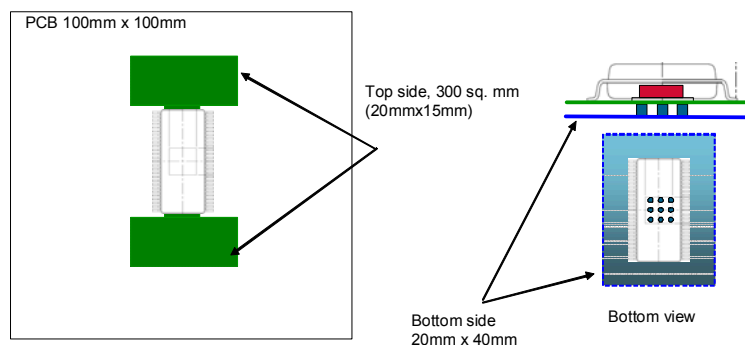

Figure 13. PCB with Top and Bottom Layer Dissipation Area (Dual Layer)
- This parameter was measured according to Figure 13: